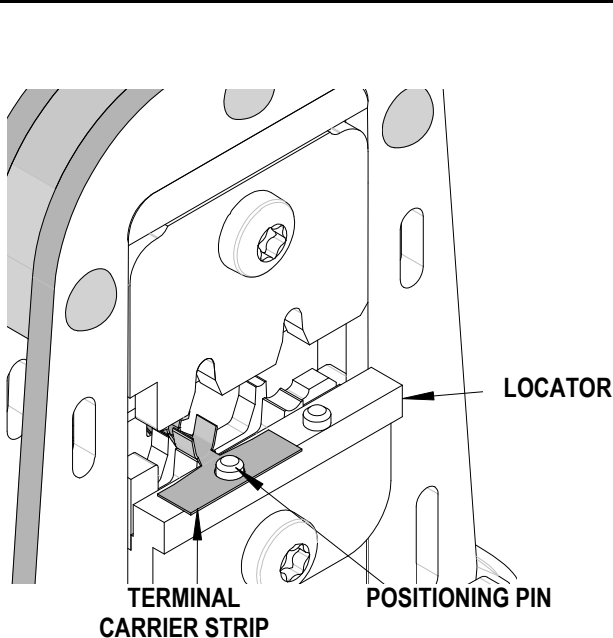

Figure 3
2. Place the properly stripped wire into the open terminal barrel. Push the wire into the tool until the end of the wire contacts the wire stop, making sure that all wire strands are inside of the conductor barrel. See Figure 3 and 4.